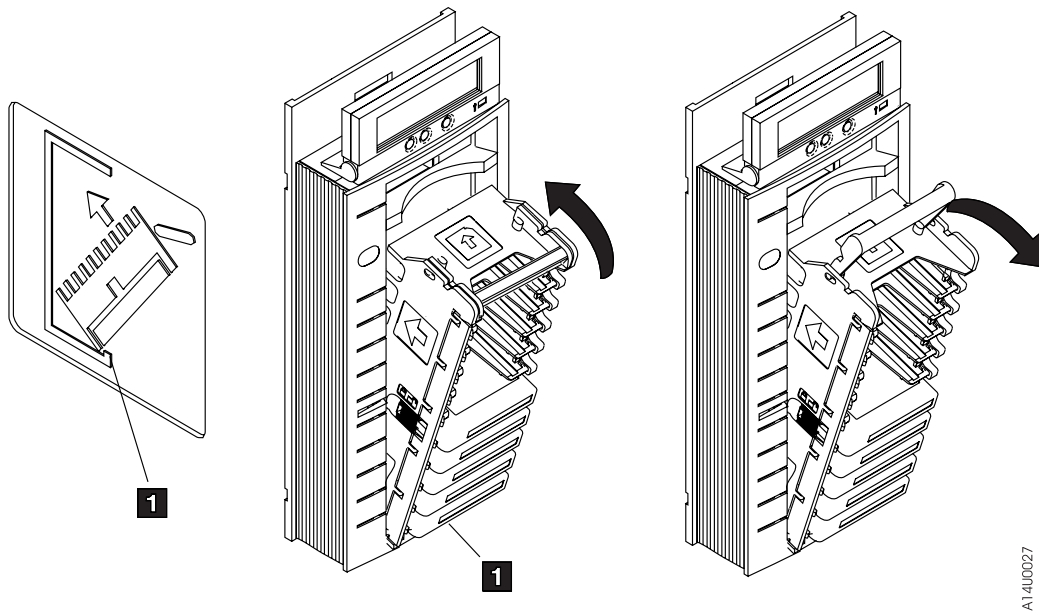

Figure 6-5. Inserting and Removing Magazine from ACF
Figure 6-5 shows how to insert or remove the magazine from the ACF. Use two hands to load the magazine in the ACF:
2. Insert the lower front of the magazine into the ACF, as shown in Figure 6-5 so that the front of the magazine is inside the ACF lip **1**.